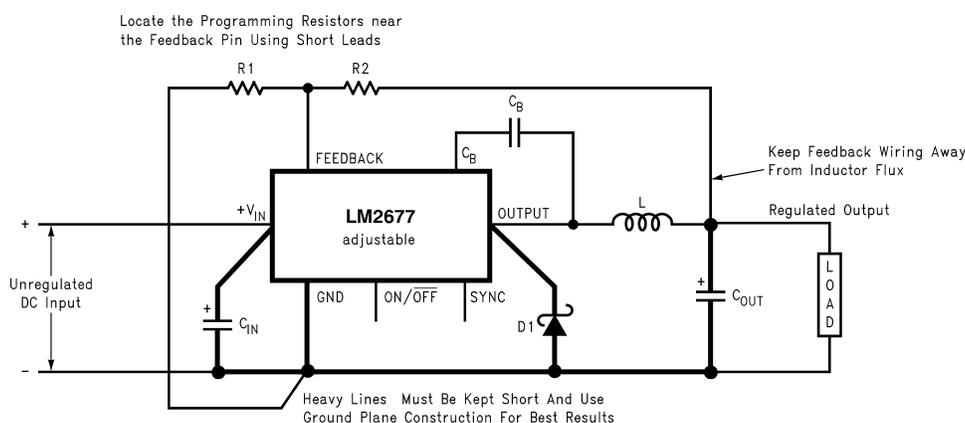

Figure 9. Basic circuit for adjustable output voltage applications
Step 2: Select an LM2677S-ADJ. To set the output voltage to 14.9V two resistors need to be chosen (R1 and R2 in Figure 9). For the adjustable device the output voltage is set by the following relationship: